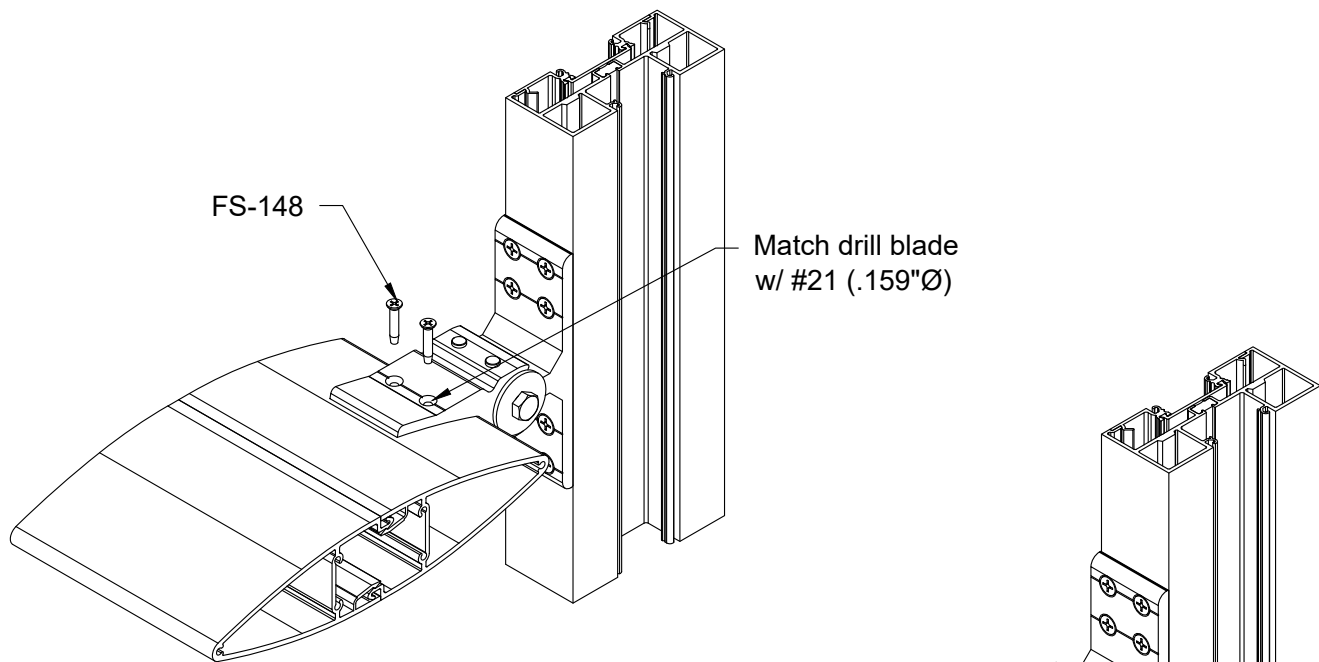

FIGURE 24
- 9) Final assembly of Solar Eclipse II is shown in FIGURE 24 & 25 for FG-3621 mullion.